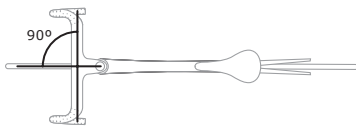

Figure 1.6 Proper alignment of handlebar and saddle.
- Make sure the bar is at 90 degrees to the wheel (Figure 1.6).